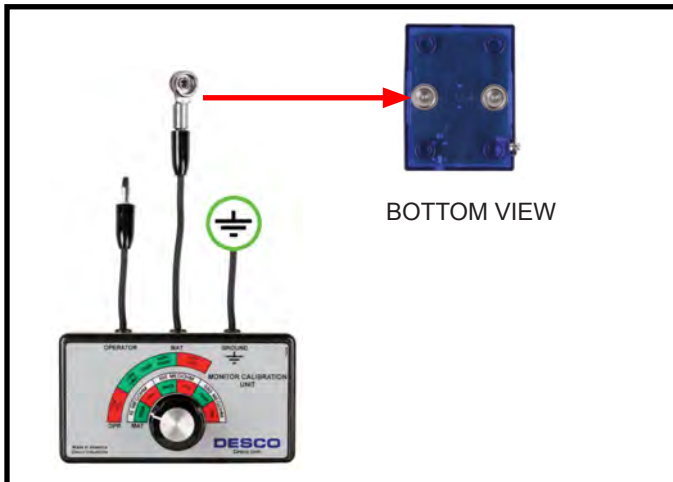

Figure 7. Connecting the MAT test lead from the Monitor Calibration Unit to the Jewel® Workstation Continuous Mini Monitor
**Step 2:** Connect the included stacking snap to the banana plug labeled “MAT” on the Calibration Unit. Detach the monitor from its mat connection and re-install the snap located underneath the LEDs to the Calibration Unit’s stacking snap (see Figure 7).